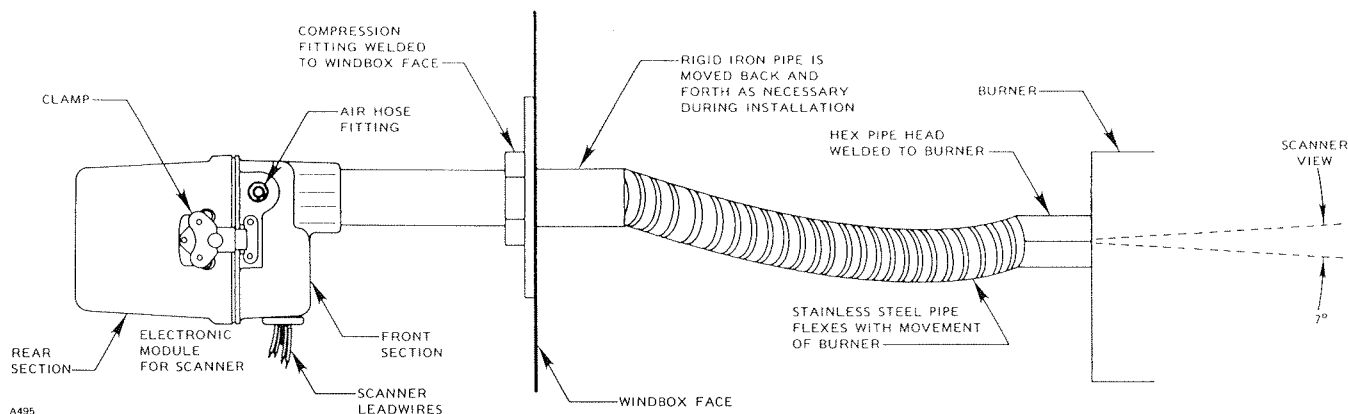

Figure 6—Example of Installation, Fiber Optic Flame Scanner
In multiple burner furnaces, choose a sighting angle with the best possible view of the flame of interest and the poorest view of other flames in the furnace. The hexagonal carrier termination should be angled slightly downward, if possible, so that unburned particles or condensed moisture will not fall or drain into the scanner. Figure 6 is an illustration of scanner installation.
11. Fasten the purge air hose to the air hose fitting on the housing (Figure 6). The purge air source must